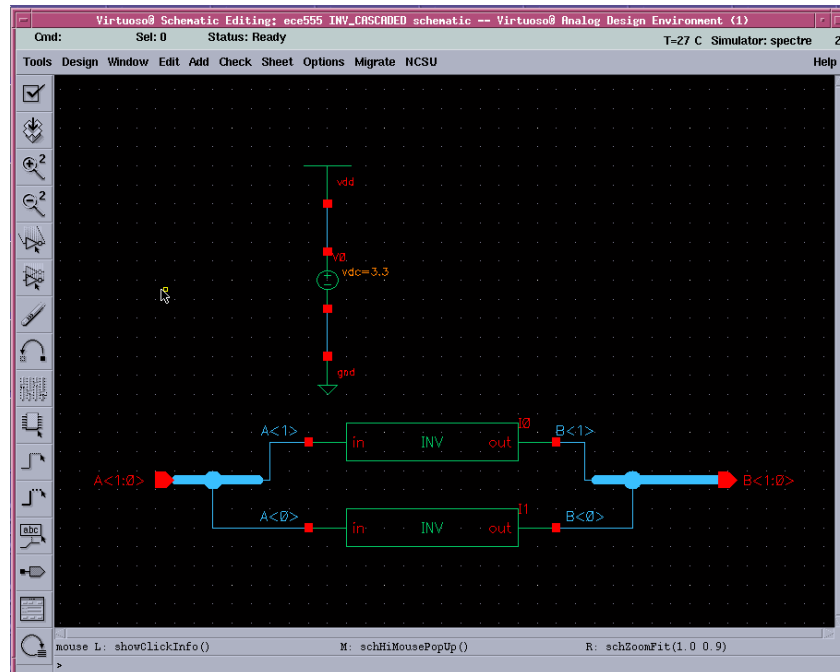

Fig. 2. 2-bit Inverter with a VDC source.
- The connection made for the 2-bit inverter is shown in Fig. 2.
- The new schematic with the defined voltage will appear as shown in Fig. 2.